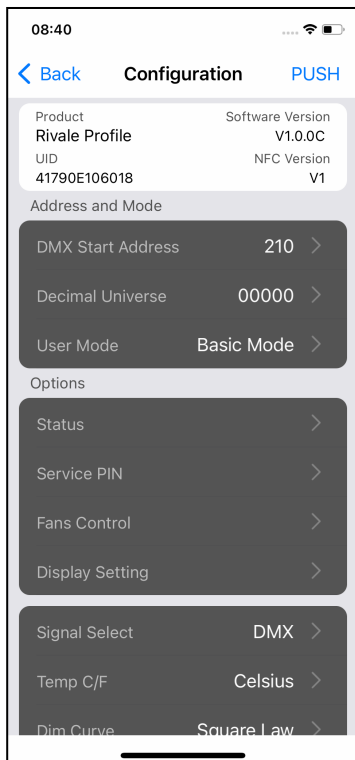
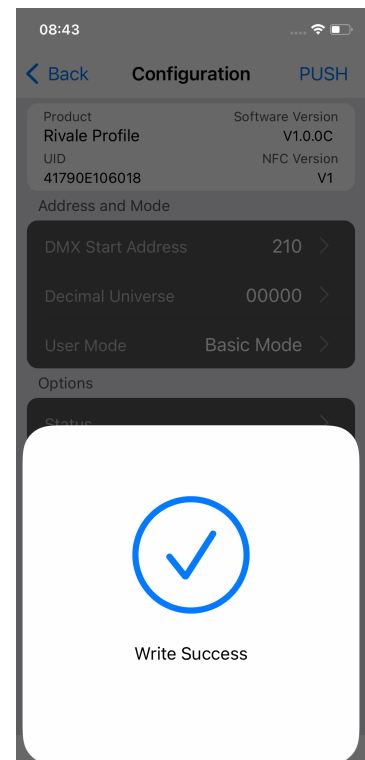

Figure 7
Figure 9
- 3) Tap 'PUSH' on the upper right corner (Figure 7,8) and place the NFC scan area of your mobile phone close to the NFC tag area of the fixture to write into the NFC tag (Figure 9).